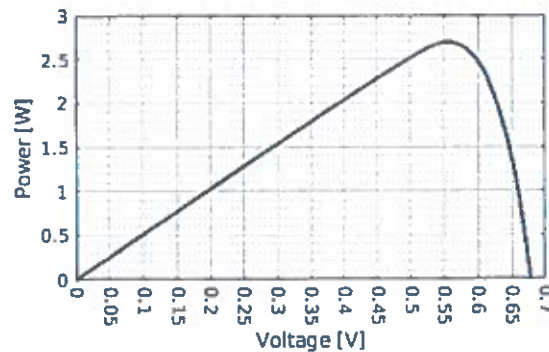

Figure Q2.1 – Output power against terminal voltage of a PV cell under an irradiation of 13.6 W .
- a) The characteristic curve of output power against terminal voltage of a PV cell exposed to an irradiation of 13.6 W is shown in Figure Q2.1. Answer the questions listed below.